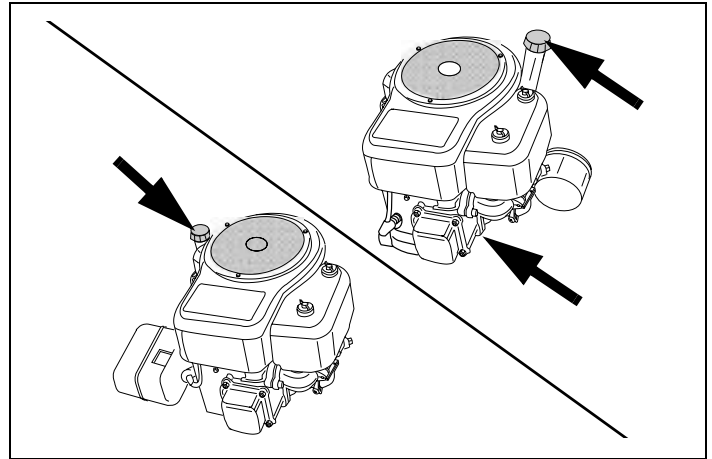

Figure 20. Oil Filler Locations
8. Fill with recommended oil. See "III. Oil and Fuel Specifications" instructions and "Table 1" on page 4. See Figure 20. Afterward, continue reading instructions below.